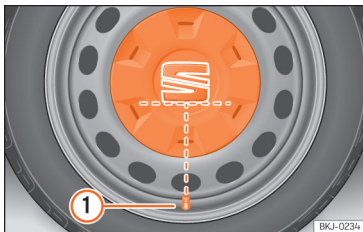

Fig. 184 Correct positioning of the central wheel trim for steel rims.
- Fit the central wheel trim onto the rim. The bottom of the "S" of the SEAT badge should align with the inflation valve >>> Fig. 184 ①.